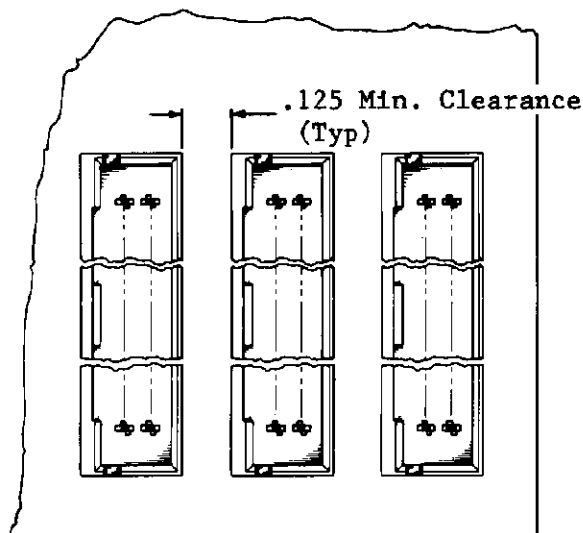

Fig. 3. Required Spacing
- (1) Copper plating thickness shall be .001 to .003 and shall register 150 (max) hardness (knoop) when tested.
- (2) Tin/lead plating thickness shall be a minimum of .0003.
4.2. Required spacing in applications requiring housing removal tool clearance or robotic header assembly placement is shown in Figure 3.